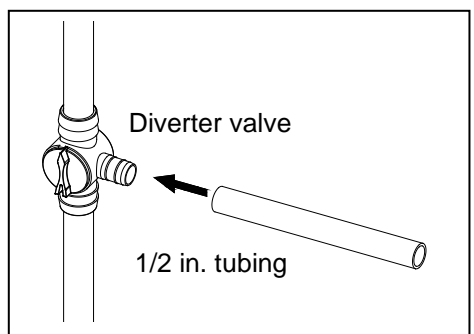

Fig. 10
10. For 1/2 in. tubing, connect the tubing onto the second output of the diverter valve. Connect the other end of the tubing to a spitter or other water feature. Fig. 10